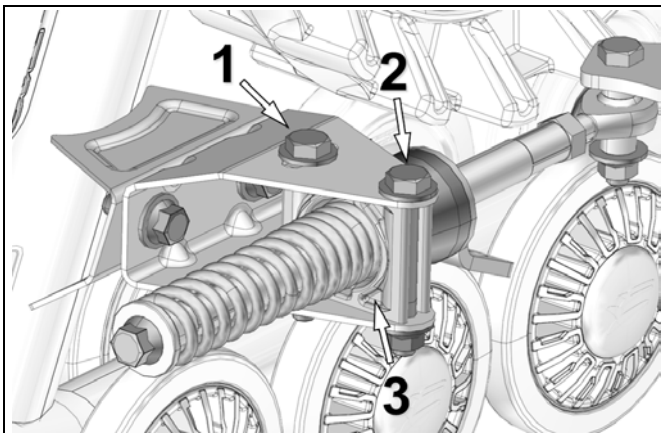

Figure 15
- Loosen anti-rotation bracket bolts (1) and (2) to allow the anti-rotation retainer (3) to rotate on its axis. See Figure 15.